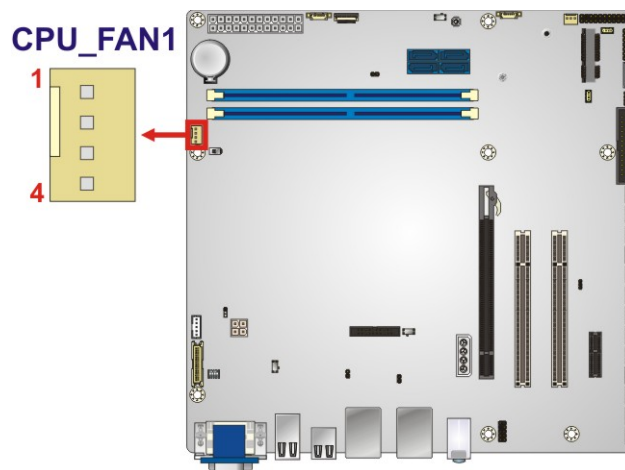

Figure 3-12: CPU Fan Connector Location
CN Location:	See Figure 3-12
- CN Location: See **Figure 3-12**